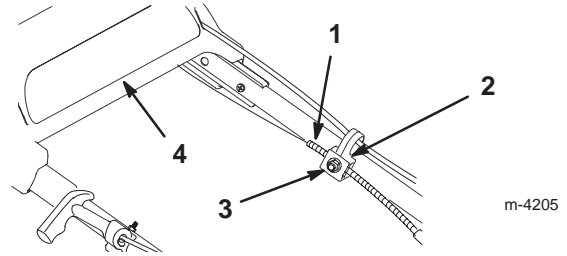

Figure 25
3. Loosen the cable support nut (Fig. 25).
5. With the upper handle pushed back as far as possible and while holding the drive bracket down, pull the cable jacket down (toward the lawn mower) until there is no slack in the cable (Fig. 25).
6. Tighten the nut on the cable support (Fig. 25).